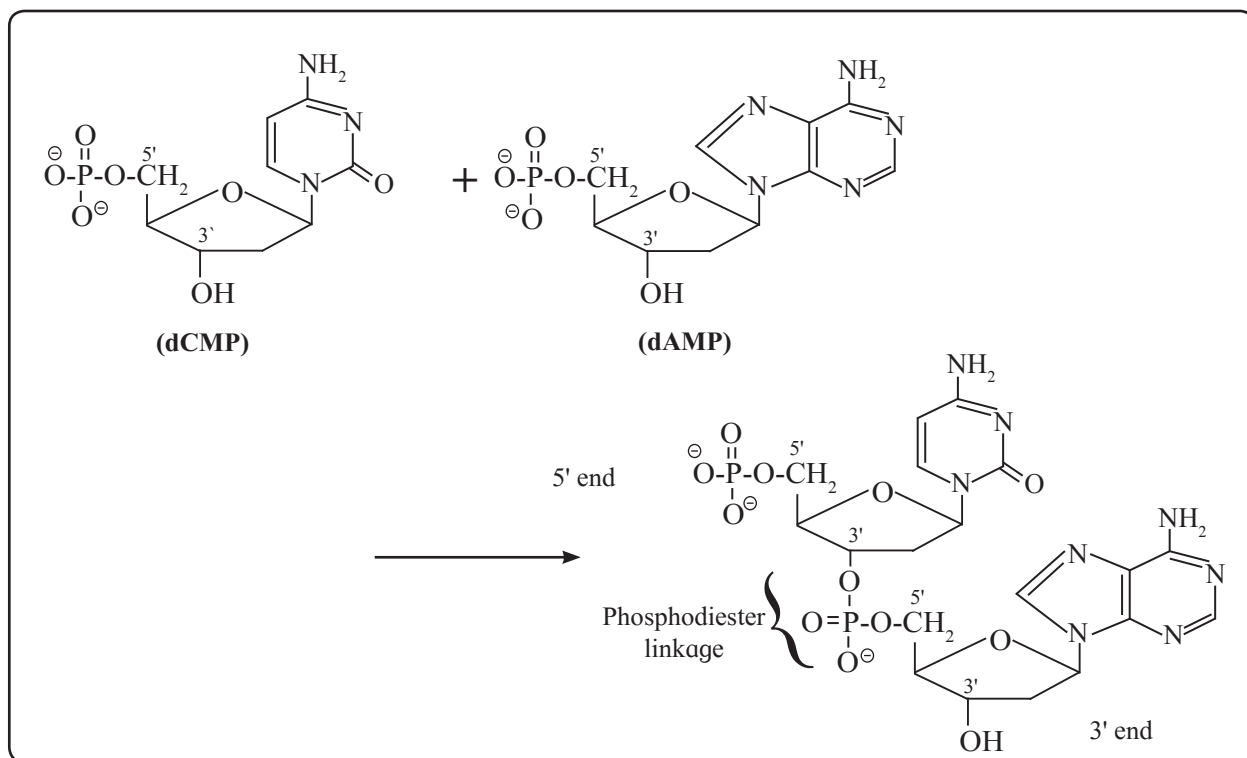

Fig 14.28 : Formation of a dinucleotide
14.4.2 Structure of nucleic acids : Nucleic acids, both DNA and RNA, are polymers of nucleotides, formed by joining the 3' - OH group of one nucleotide with 5'-phosphate of another nucleotide (Fig. 14.28). Two ends of polynucleotide chain are distinct from each